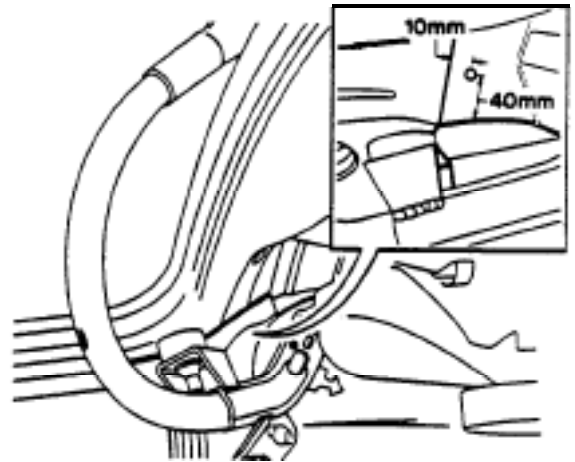

Figure 7. Drilling 3mm hole
7. Drill a 3mm hole as shown in Figure 7, being careful not to damage the outer body panel. Also make certain to rustproof the hole when finished drilling.